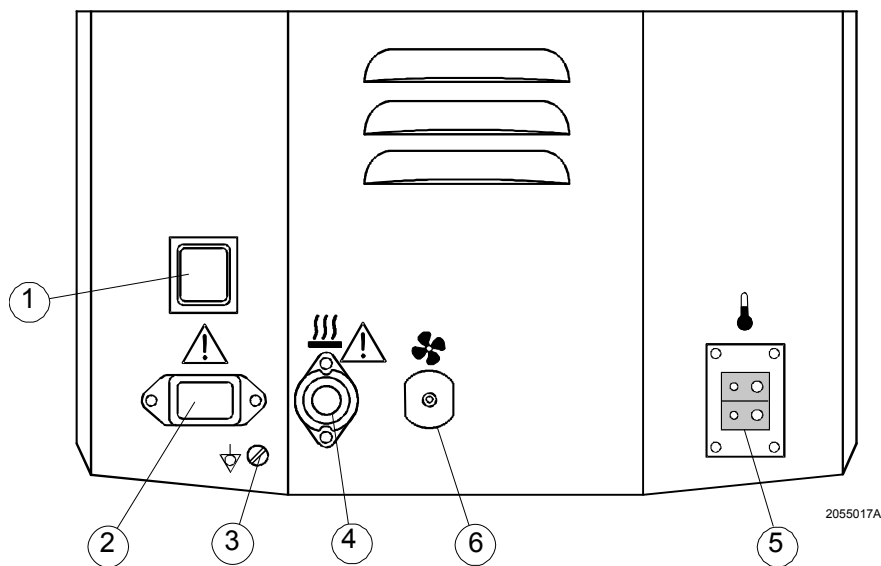

Fig. 3:3 Control Unit (CU) rear side
2. Connect the **power cable for the hot plate** from the EU (pos. 4) to the CU (Fig. 3:3 pos. 4). Tighten the knurled nut to ensure that the contact stays in position.
Finally connect the **air tube** between the CU (Fig. 3:3 pos. 7) and the EU (pos. 2).